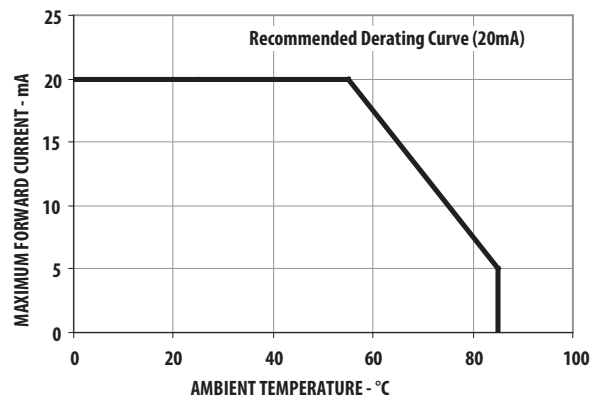

Figure 4. Maximum DC Forward Current vs. Ambient Temperature
1. Derate linearly as shown in Figure 4.